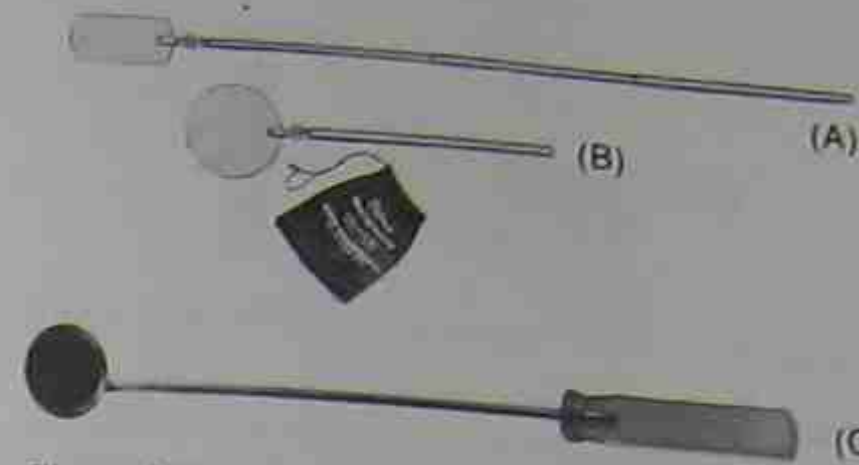

Figure 4-11. Inspection mirrors. Courtesy (A, B) Delavan Corporation (C) Robinair Division-Sealed Power Corporation
**Inspection Mirrors.** Inspection mirrors are usually available in rectangular or round shapes, with fixed or telescoping handles, some over 30 in. long. The mirrors are used to inspect areas or parts in components that are behind or underneath other parts, Figure 4-11.